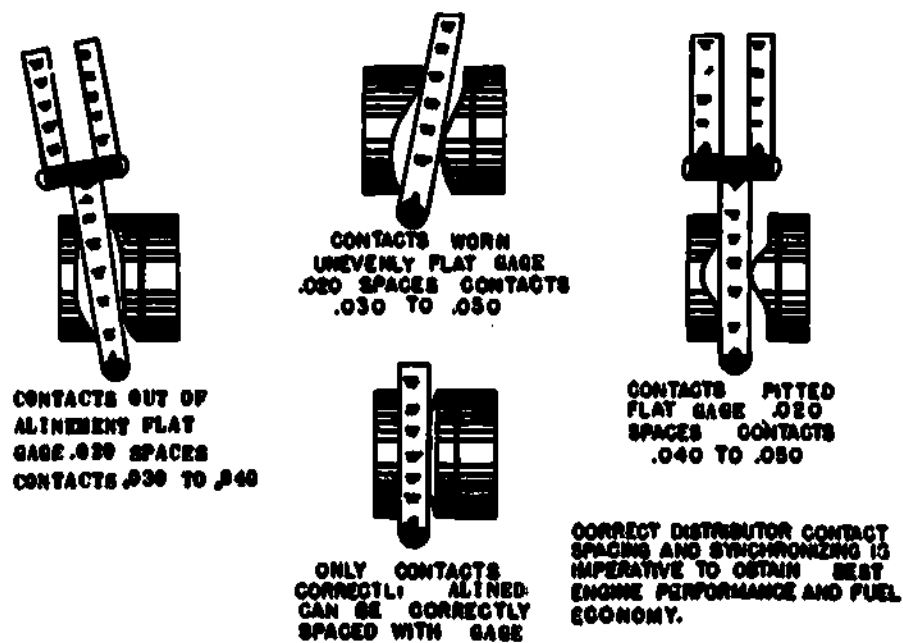
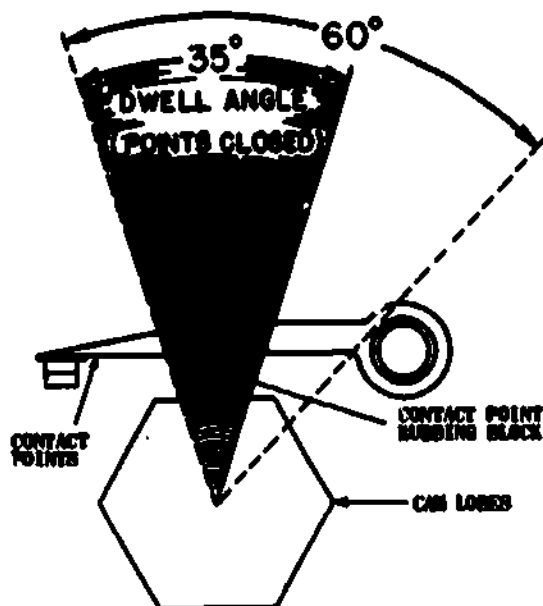

Fig 1-26. Setting contact points with a feeler gage.
Fig 1-27. Dwell angle.
- (c) Contact point dwell test. Figure 1-26 illustrates some of the fallacies of using a feeler gage to adjust contact points. Measuring the dwell angle (fig 1-27) is the most accurate method of adjusting the contact points in a spark ignition system. Degrees of dwell, dwell angle, and cam angle are terms used to refer to the number of degrees that a distributor cam will turn while the points are closed. Dwell angle will affect ignition timing and coil output. If the points stay closed too long, ignition will be late; if the points open too soon, the coil will not produce the spark required. When making the dwell angle test, the engine rpm should be varied from idle to 2,000 or maximum governed rpm and the variation of the dwell noted.